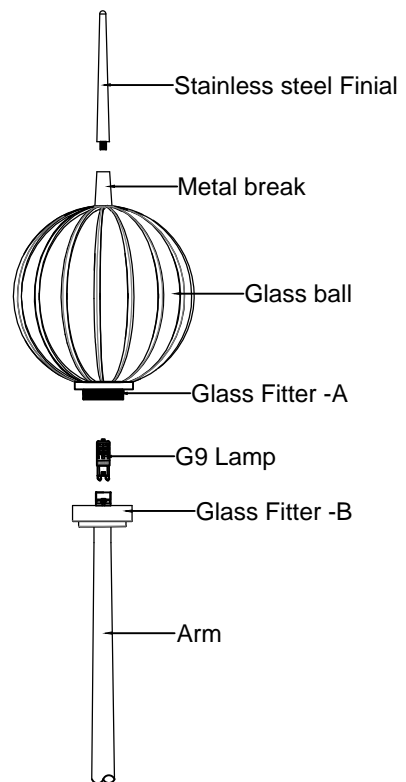

FIGURE-03
9. Attach the stainless steel finial to the metal break on glass ball. (See Figure-03)
10. Attach glass ball to the arm, mate the together the Glass fitter-A on the glass ball to the Glass fitter-B on the arm. (See Figure-03)